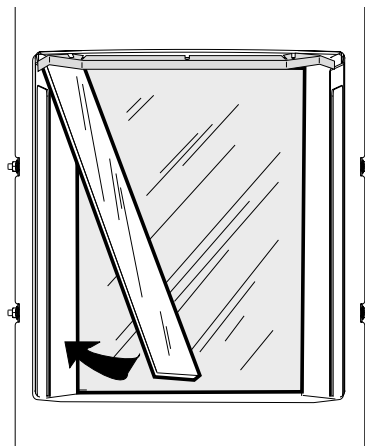

Figure 26a. Install Side Glass Panels.
4. Orient the side panels, smooth side out, and sliding each behind the retainer wings. See Fig. 26a.